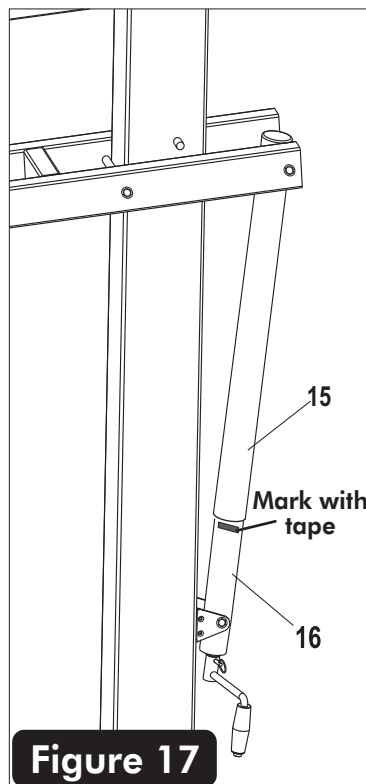

Figure 17
37. Using tape - mark the **side** of the steel actuator (#16) just under the plastic actuator sleeve (#15) at this 10 ft rim height. See **Figure 17**.